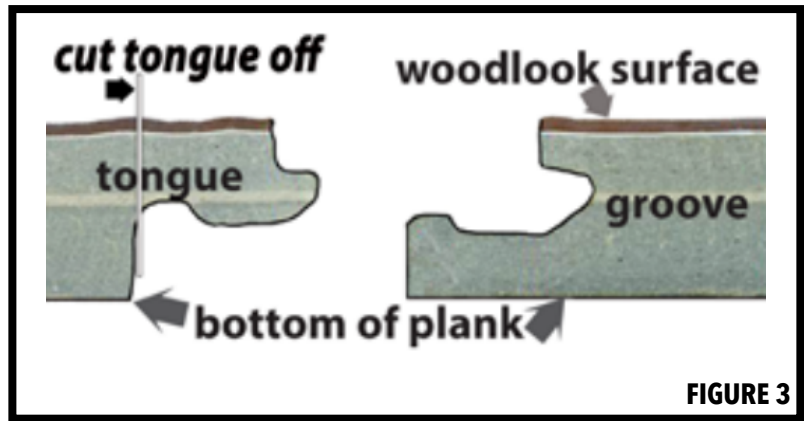

FIGURE 3
2. Install planks from the left side of the starting wall and work to the right side. If starting with a full width plank, the tongue must be removed (Refer to Figure 3). To trim planks, use a utility knife and a straight edge. Score the top surface of the plank, flex it downward to separate pieces. The tongue side of the plank always faces the starting wall. Place 5/16"(8.2mm) spacers between the short and long side of the planks and the wall. Always position one spacer between the wall and where the planks join.